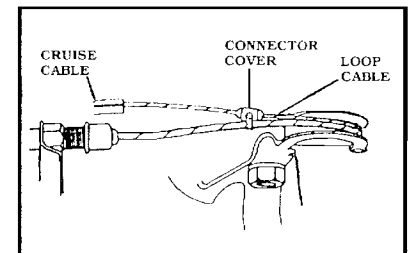

Figure 10
5. To secure the LOOP CABLE to the throttle cable, punch a small hole in the CONNECTOR COVER and slide the TIE STRAP (102MM) through the hole and secure to the throttle cable. **Figure 10**